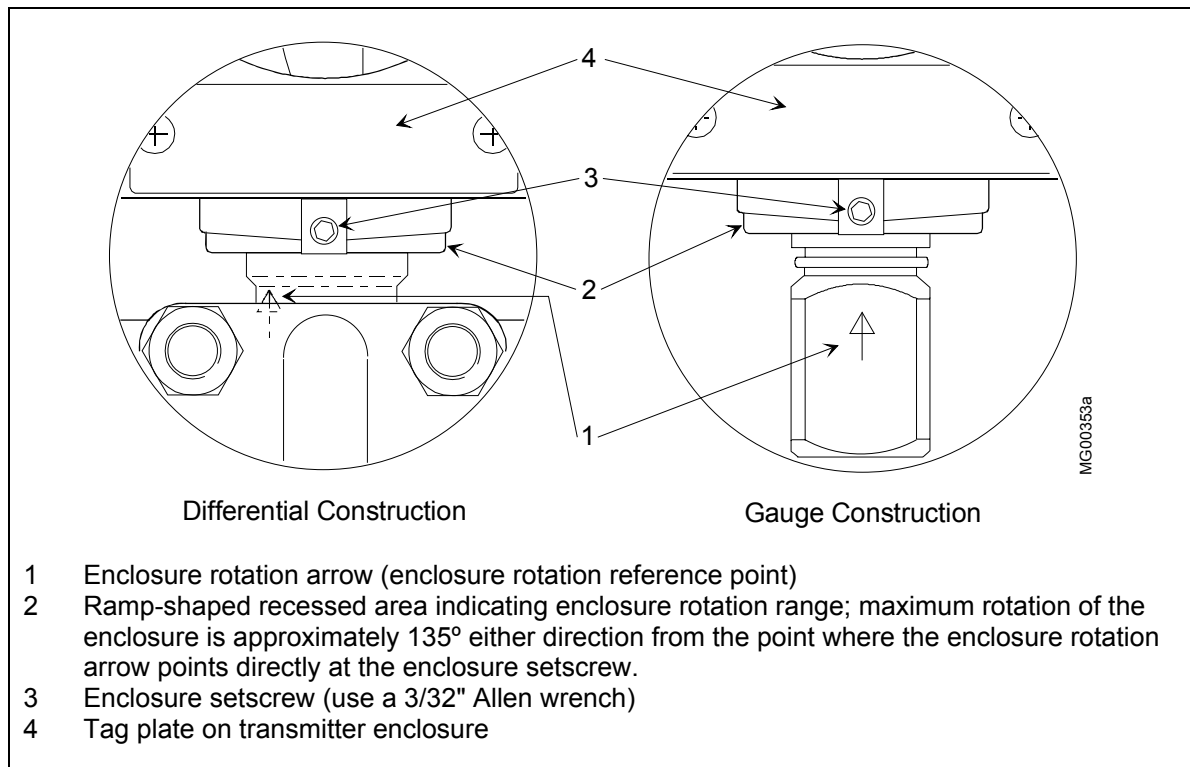

FIGURE 4-14 Enclosure Rotation Considerations
1. Loosen the enclosure setscrew using a 3/32" Allen wrench. See Figure 4-14. The enclosure can be rotated approximately 135° in either direction from the point where the enclosure rotation arrow points directly at the enclosure setscrew; see Figure 4-14.